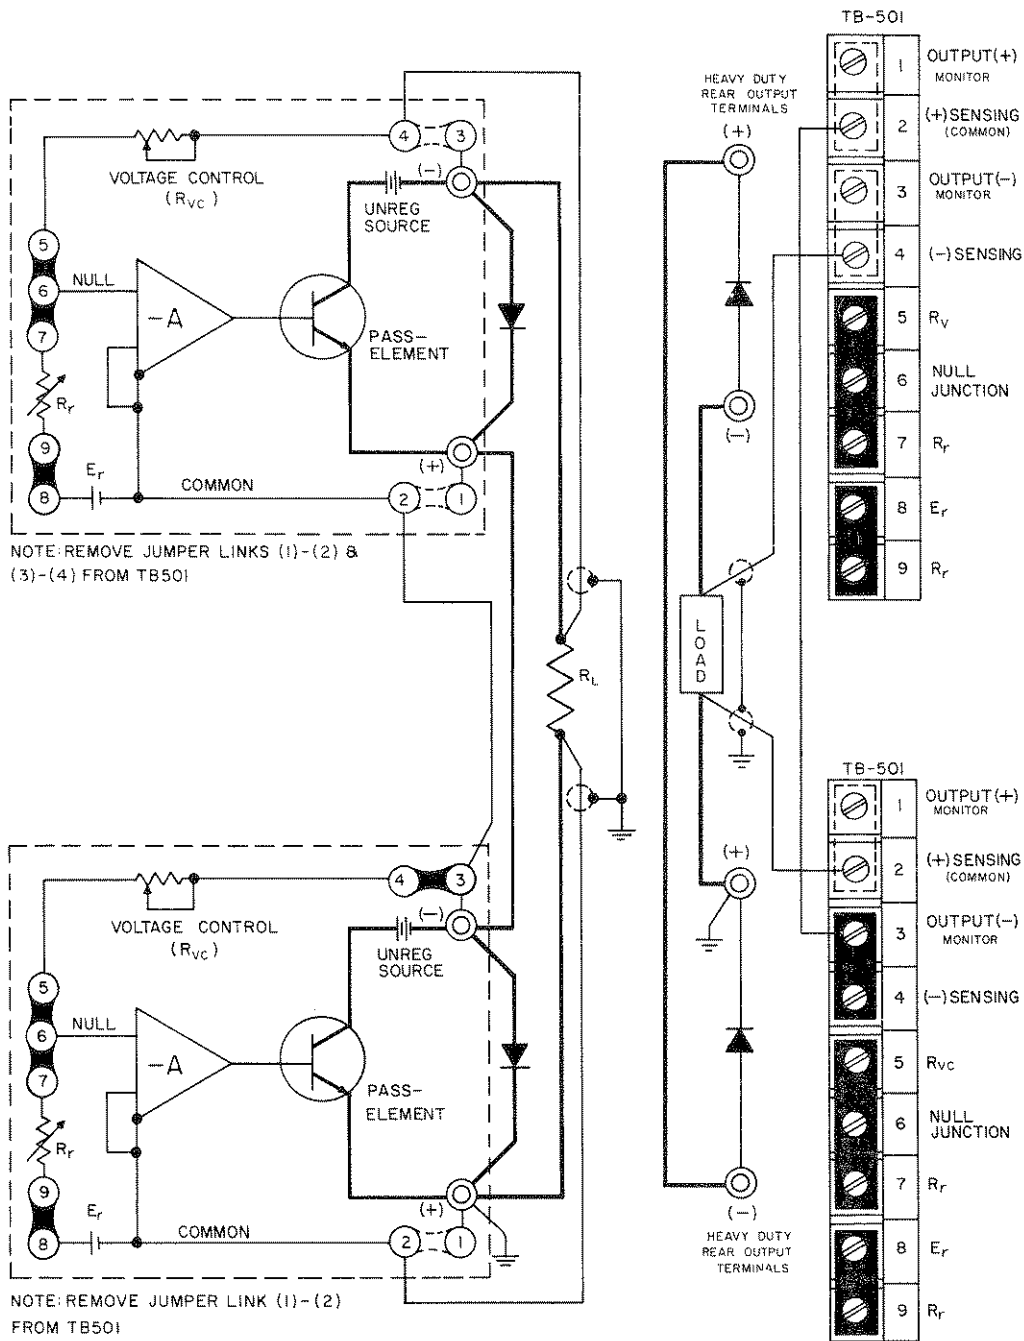
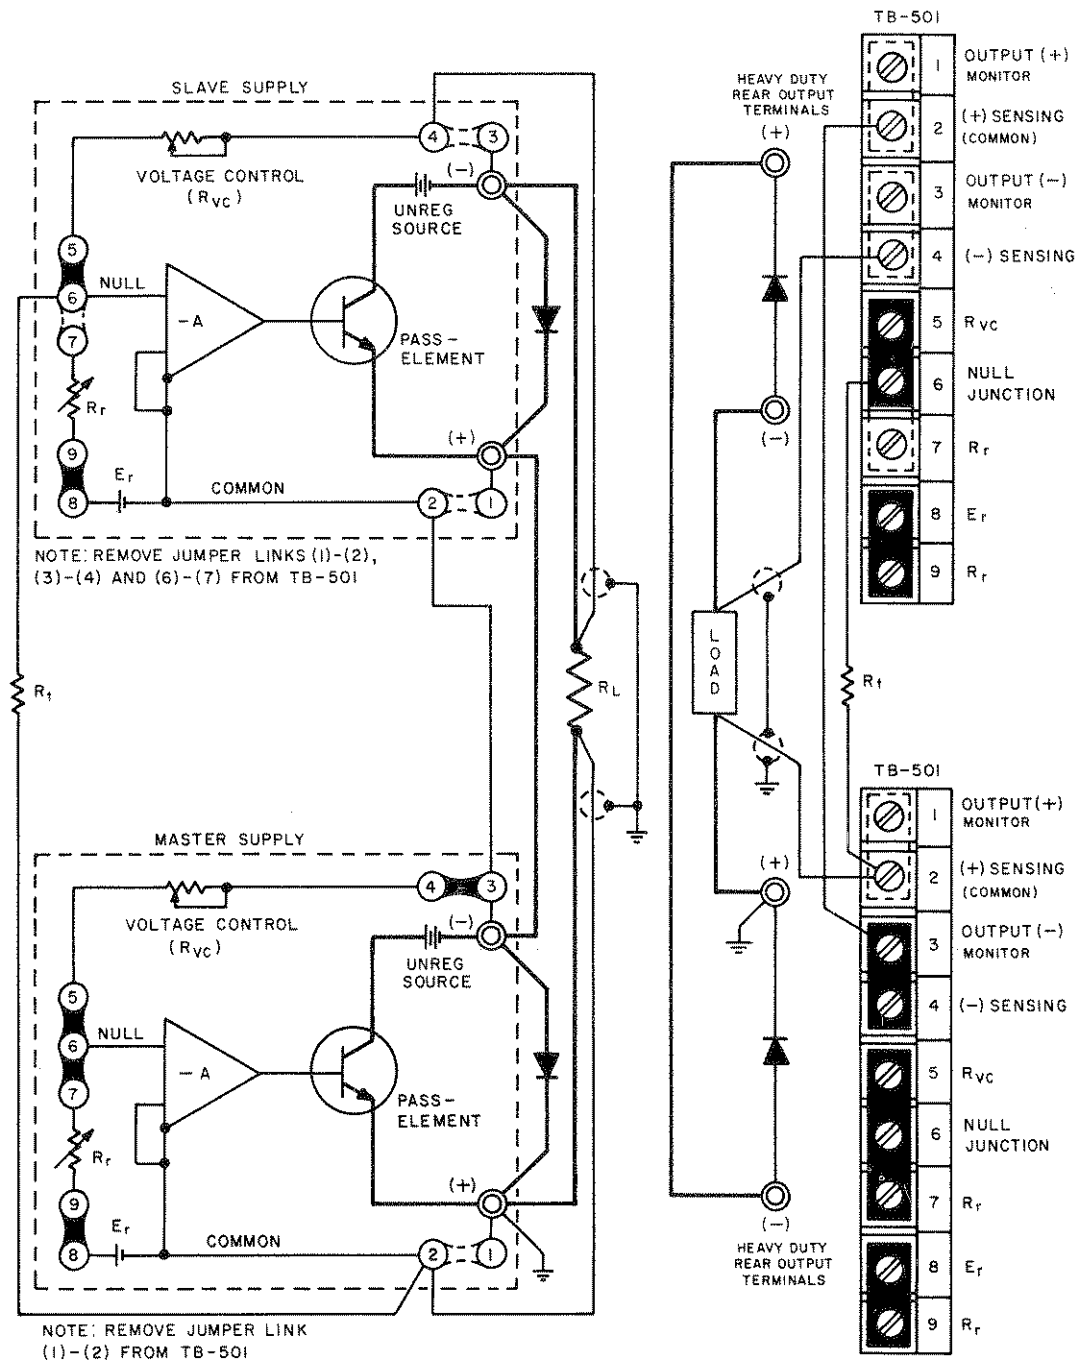

FIG. 3-10 AUTOMATIC SERIES CONNECTION OF KEPKO POWER SUPPLIES
FIG. 3-11 MASTER-SLAVE SERIES CONNECTION OF KEPKO POWER SUPPLIES
3-35 GENERAL. Kepco Power Supplies can be series-connected for increased voltage output, provided the specified limits on voltage to chassis are not exceeded. When series-connected, the supplies should be protected by means of a semiconductor diode across the output terminals of each power supply, as shown in FIG. 3-10. The peak inverse rating of these diodes must be at least as large as the output voltage of the supply to which they are connected. The continuous current rating of the diodes should be at least as great as the largest short-circuit current of the interconnected supplies.
3-36 Two basic series connection methods are generally used, the "Automatic Series Connection", as illustrated in FIG. 3-10, and the "Master-Slave" connection, shown in FIG. 3-11. The basic difference between these two alternate methods lies in the manner of the output control. While in the "Automatic" connection the outputs of both supplies may be controlled individually, in the "Master-Slave" connection, control is exercised from the "Master" supply alone, while the "Slave" supply follows the master command in a ratio which may be pre-determined by the user. The latter method of series operation is therefore frequently termed "Automatic Tracking".
- a) Connect load as shown in FIG. 3-10. Keep voltage drop in load wires as low as practical by using heavy gauge wire.
3-38 The "Master-Slave" series connection method is illustrated in FIG. 3-11. As seen from the figure, the reference voltage ( $E_r$ ) of the "Slave" supply is disconnected and its input or null junction is connected to the output of the "Master" supply via the tracking resistor ( $R_t$ ). The "Slave" supply output is thus completely dependent on the "Master" output voltage:
- a) Connect load as shown in FIG. 3-11. Keep voltage drop in the load wires as low as possible by using heavy gauge wire.
- c) Remove jumper links as shown (FIG. 3-11) and connect error sensing leads if remote sensing is desired. Sensing leads should be twisted and shielded.
- d) Select value of the tracking resistor ( $R_t$ ) and connect with shielded wire as shown (FIG. 3-11).